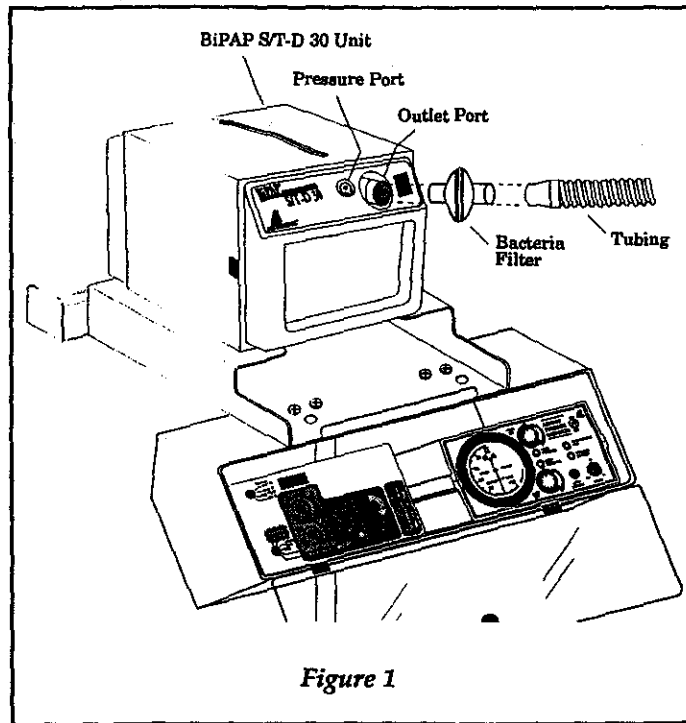

Figure 1
- Step 1** See Figure 1. Connect the inlet of a bacteria filter to the airflow outlet port on the front of the BiPAP 30 unit. Connect one end of the patient tubing to the outlet of the bacteria filter.